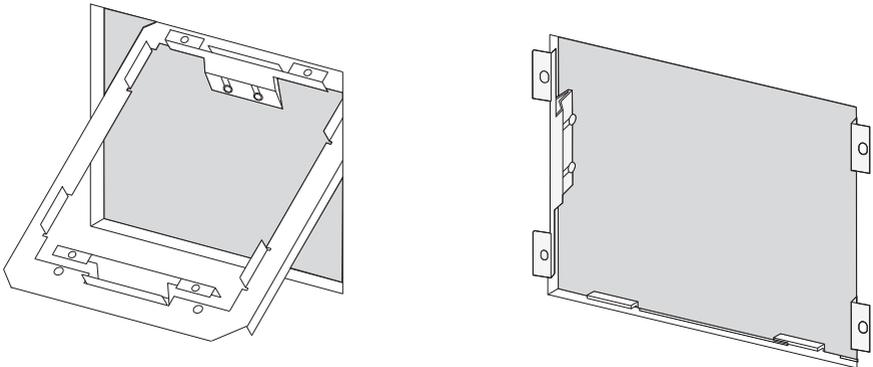

Figure 6. Plasterboard bracket installation
4. Insert the bracket in the cut out hole (see Figure 6) and then rotate the bracket inside the wall cavity until it matches the cut out.